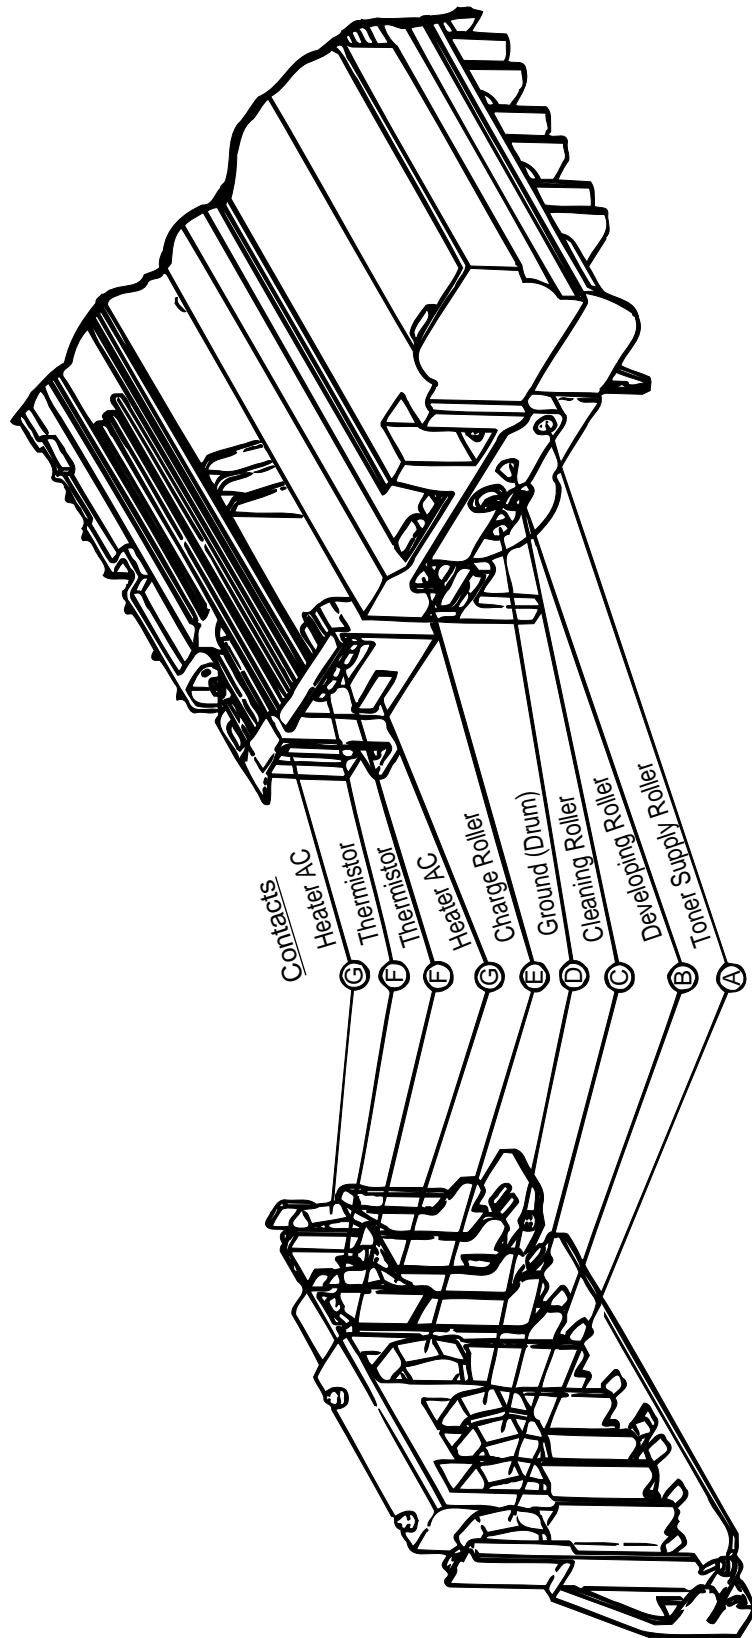

Figure 6-4
- ▼ Yes Check the heat contacts of the fusing unit and the contact assembly for poor contact (see Fig. 6-4 contact ㉔).
- ▼ Yes Are the contact of the developing roller and the contact of the toner supply roller of the image drum cartridge in contact with the contact assembly properly (see Fig. 6-4 (A) and (B))?